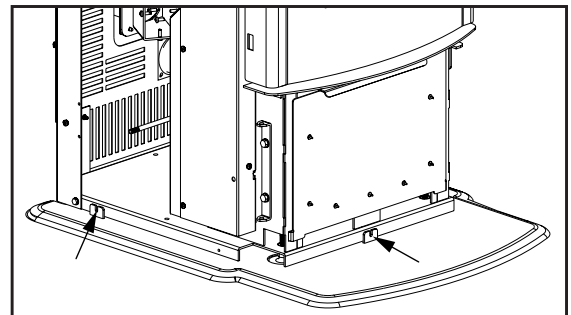

Figure 17: Mini Bern Hearth Pad in Place.
5. Loosen the three (3) T-20 screws from the base of the unit (see Figure 17).
Figure 17 is the installation to use if there is a concrete or retaining wall in line with exhaust vent on a pellet stove. The termination must be 12" (30 cm) from the outside wall and 12" (30 cm) above the ground.